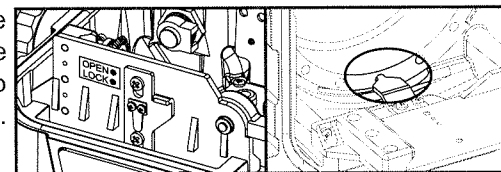

Fig.3
1. Pull up the port lock at the bottom of the Quick Shoe Base in the front case to the OPEN position (Fig. 3).
4. Push down the port lock to the LOCK position until you hear a click, making sure that the port lock pin is fully engaged with one of the port notches (Fig. 3).
1. Pull up the port lock to the OPEN position (Fig. 3).